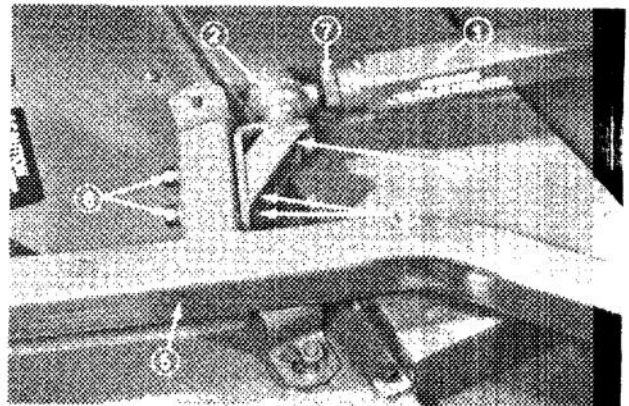

Figure 10
3. Secure ball joint mount (Fig. 10) to mount bracket with two capscrews w/flatwashers, lockwashers and nuts (7/16 – 14). Head of capscrews and flatwashers must contact ball joint mount.
4. Tighten large jam nut against front of left push arm (Fig. 10). When tightening jam nut, hold ball joint straight to permit proper oscillation during raising and lowering of cutting unit.